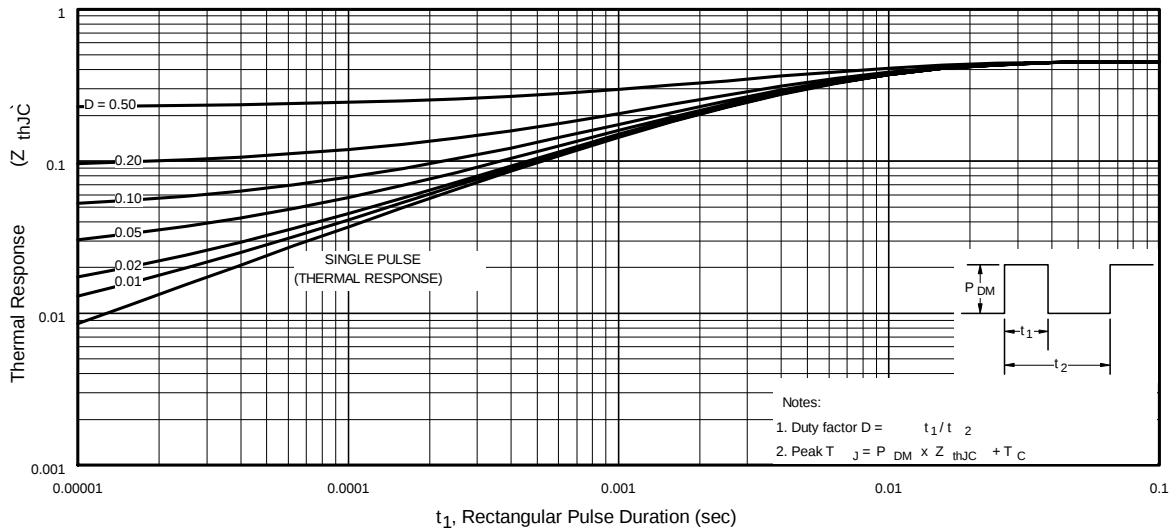

Fig 11. Maximum Effective Transient Thermal Impedance, Junction-to-Case
- ① Repetitive rating; pulse width limited by max. junction temperature. (See fig. 11).
- ② Starting $T_J = 25^\circ\text{C}$, $L = 0.049mH$
$Z_{thJC}(D, t_{av})$ = Transient thermal resistance, see figure 11)